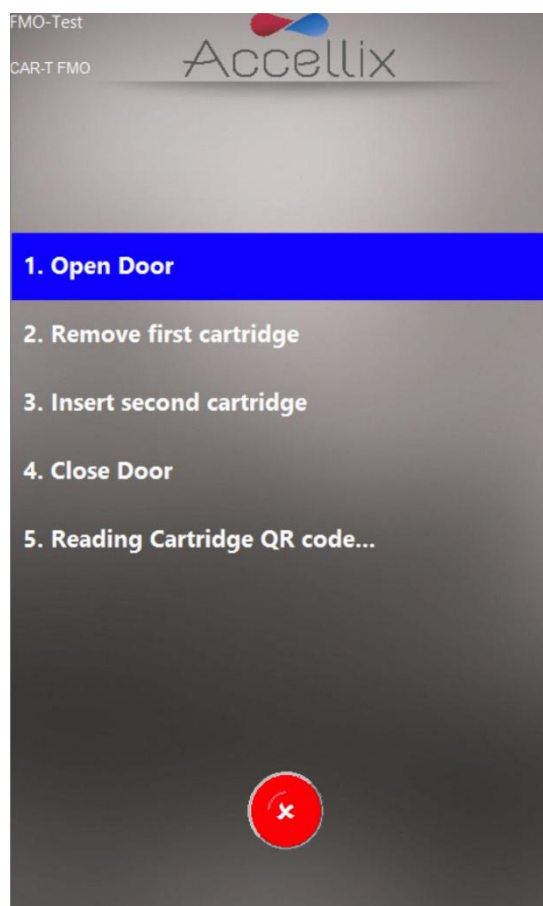

Figure 47: Multi-Cartridge Remove screen
1. The **Multi-Cartridge Remove** screen instructs the user to remove the first cartridge and insert the next cartridge in the sequence (Figure 47).